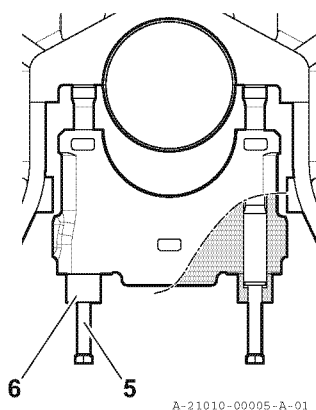

Fig.3 Holding the main bearing cap
12. Immediately install the cap support tool 5 and support nut 6 to the main bearing cap bolt. (Refer to Fig. 3.)